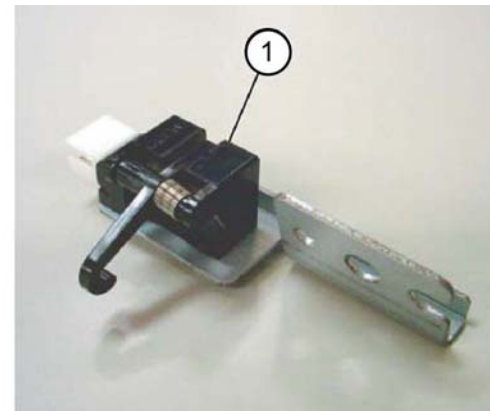

Figure 4 Finisher entry sensor removal
7. Remove the finisher entry sensor (1) from the bracket, **Figure 4**.